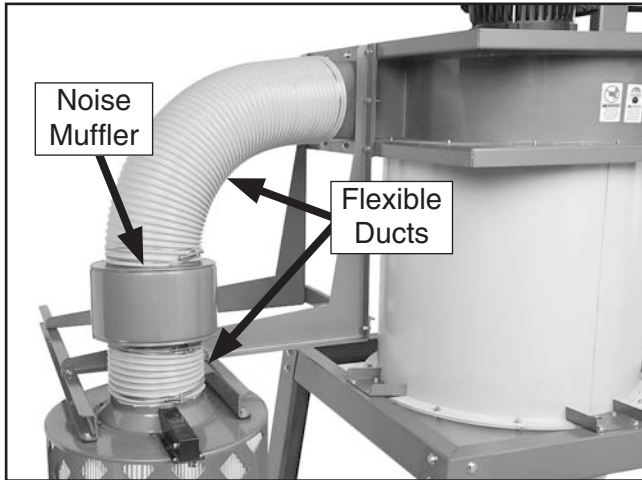

Figure 31. Ducting and noise muffler connected between blower housing and filter canister.
35. Assemble the 8" x 31½" flexible ducts, the noise mufflers, and the 8" x 4¾" flexible ducts with the 8" duct clamps (see **Figure 31**).